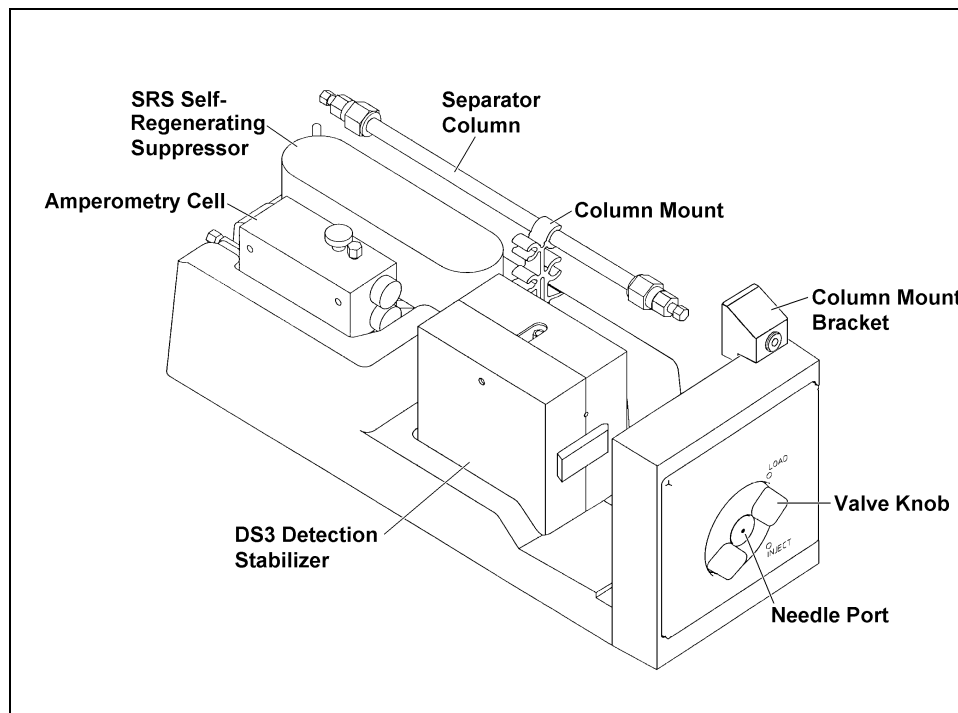

Figure 2-1. LC10 with Components Installed
Figure 2-1 shows an LC10 with all components for which it is designed. Not every component is required for a given analysis.
4. **Conductivity and Amperometric Detection Only:** Insert the column mount into the square opening on the right side of the LC10 molding (see Figure 2-1). If you are using 4-mm separator columns, orient the column mount with the larger clips toward the outside. If you are using 2-mm columns, orient the column mount with the smaller clips toward the outside.